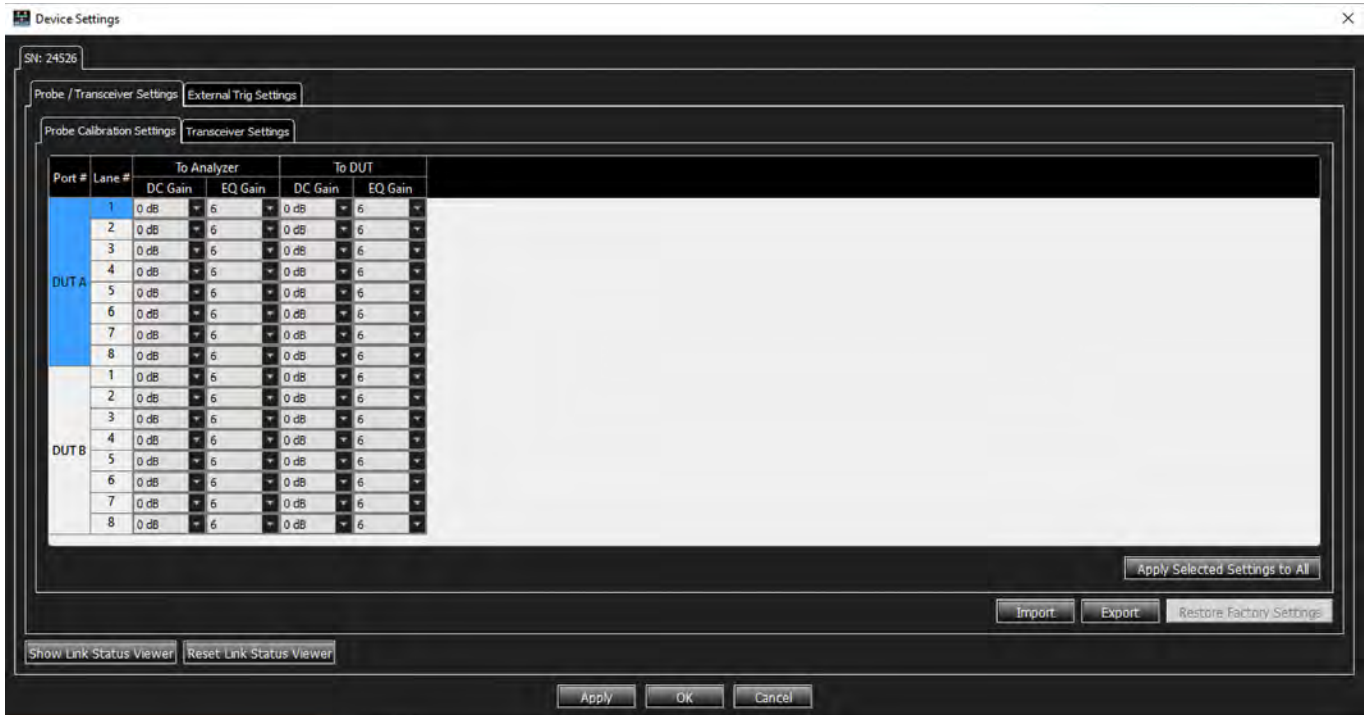
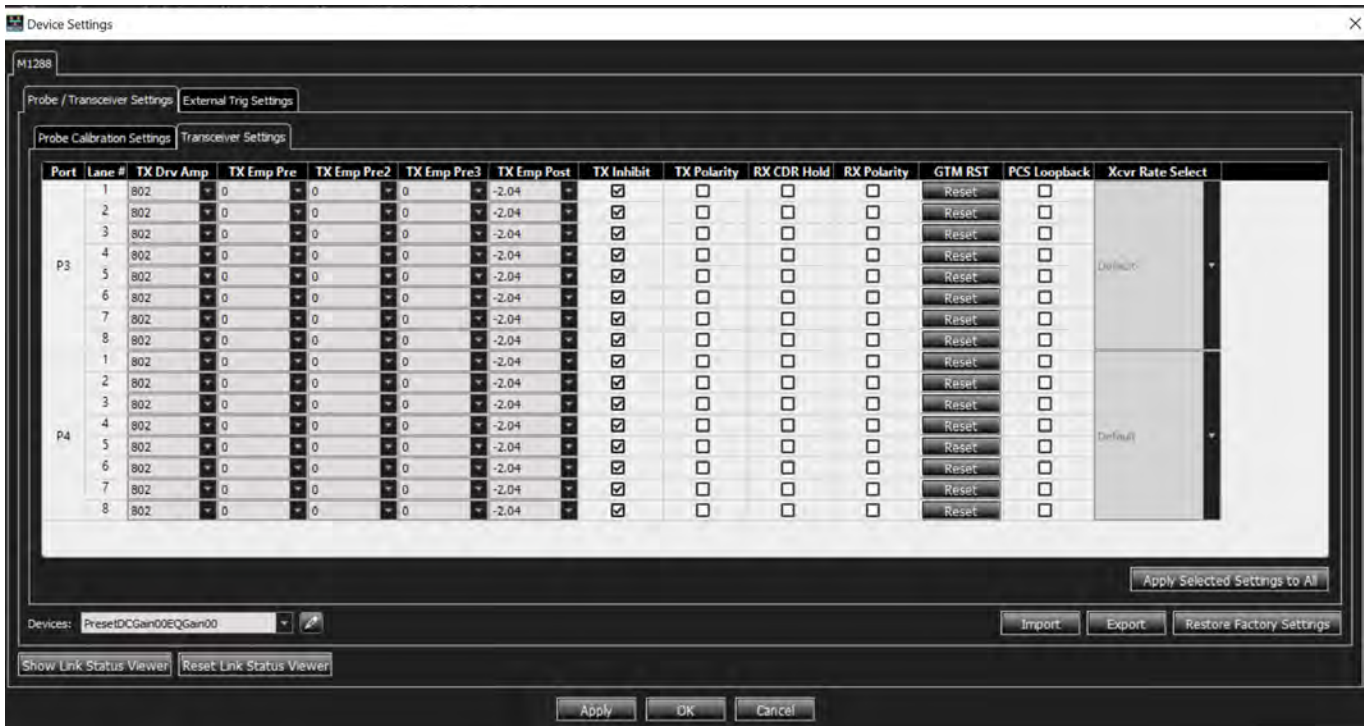

Figure 4.6: M1288 Probe Calibration Settings
Figure 4.7: M1288 Transceiver Settings
- Probe/Transceiver settings (see Figure 4.6 and Figure 4.7)
For the M1288, you can set the following parameters per Port and per Lane(Figure 4.6):
The following options are available for each lane of the M1288 (See Figure 4.7):